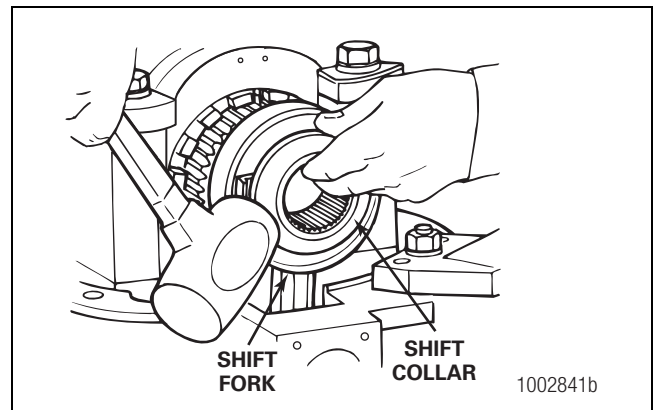

Figure 6.5
2. Tap the shift collar with a rubber mallet to loosen and remove the collar from the shift fork. Figure 6.5.